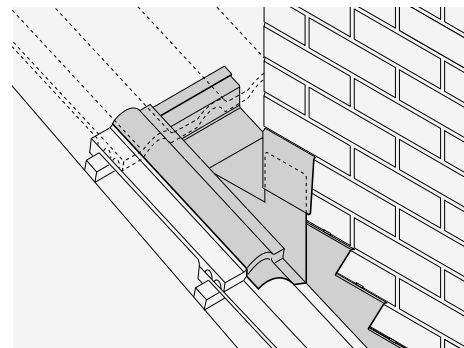

Fig. 34 – Back gutter
- 4 Dress upper edge of lead over tilting fillet and turn it back to form a welt (Fig. 34).